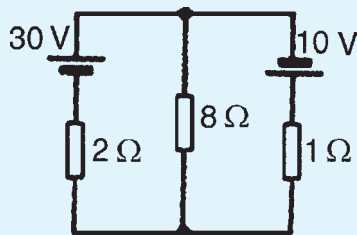

Figure 13.26
- 2. Use the superposition theorem to find the current in the 8Ω resistor of Fig. 13.26. [0.385 A]